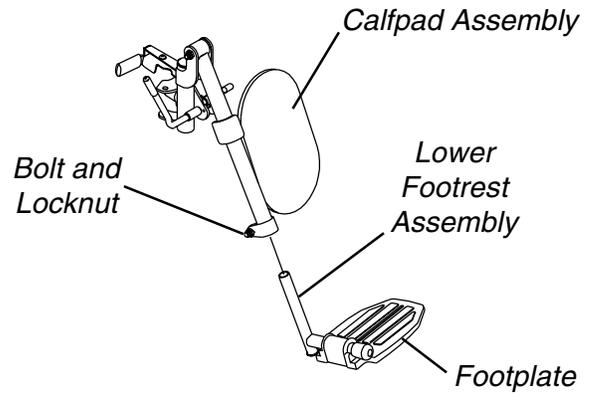

FIGURE 4 - INSTALLING LOWER FOOTREST ASSEMBLY
ELEVATING LEGREST ASSEMBLY INSTALLATION (FIGURES 4 AND 5)
1. Insert the lower footrest assembly into the calypad assembly and secure it with the bolt and locknut (FIGURE 4).